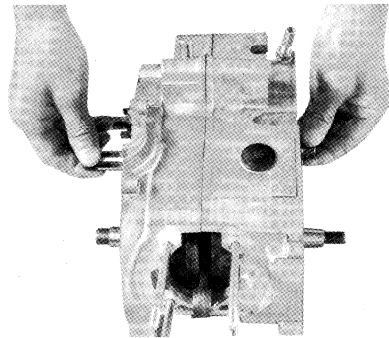

Fig. 5-5-12
7. After joining the cases, turn the countershaft and driveshaft by hand and check to make sure the shafts turn smoothly. (Fig. 5-5-12)